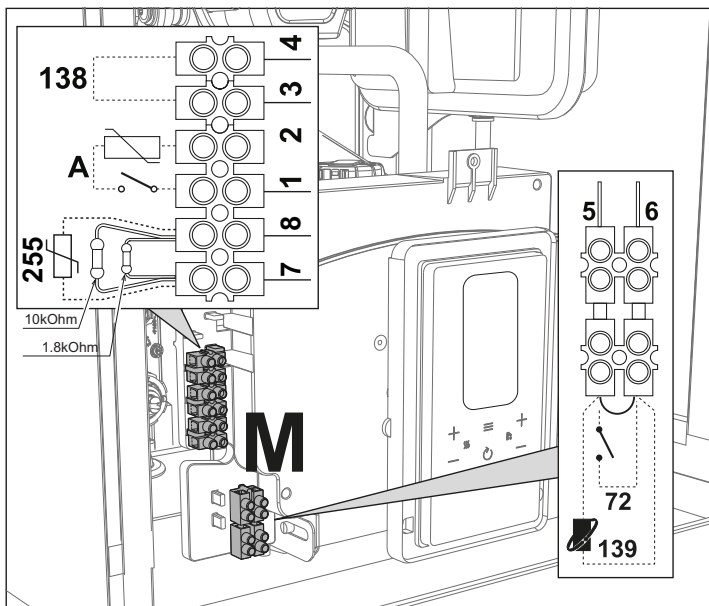

fig. 28
Remove the front panel (\*\*\* 'Opening the front panel' on page 326 \*\*\*) to access the terminal block (M) and fuse (F) by proceeding as follows ( and fig. 28). **The terminals indicated in must be with voltage-free contacts (not 230V).** The arrangement of the terminals for the various connections is also given in the wiring diagram in fig. 64.
### ON/OFF switch configuration (A fig. 28)